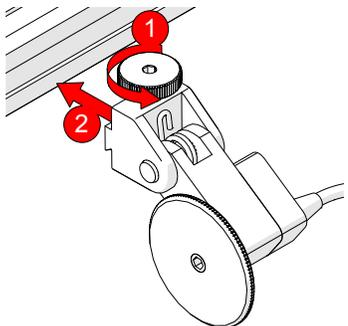

Fig. 30 - Attach to frame bar
1. Loosen the encoder's dovetail jaw and mount it to the frame bar (*Fig. 30*).